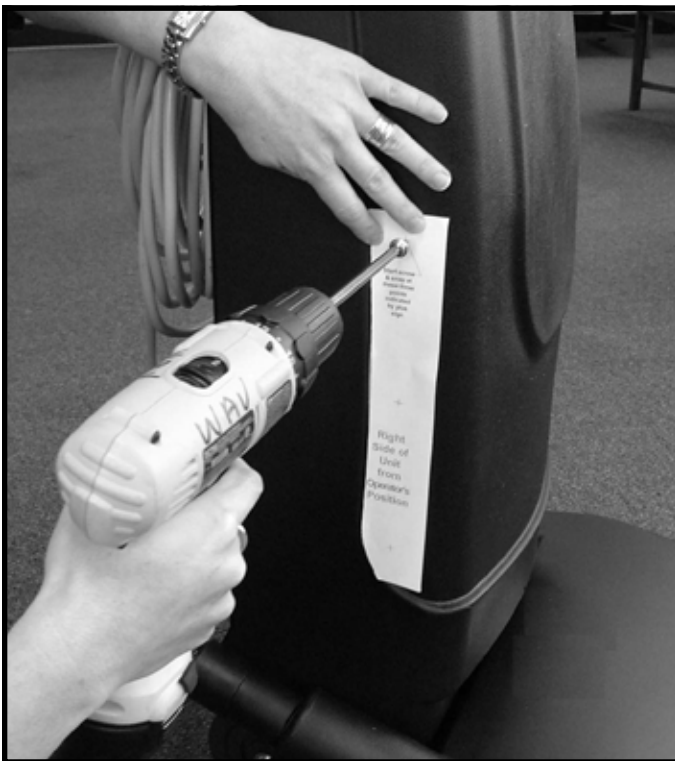

Figure 2
3. Use a powered drill to screw the self-tapping snaps into the handle at each "+" mark (Figure 2) Note: Do not over torque the screws as they can strip out